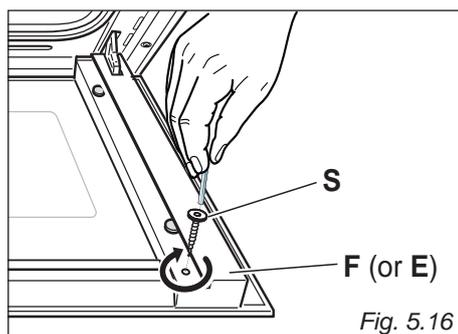

Fig. 5.16
- Refit the hex screw "S" on left "E" or right "F" slide guide, above the top edge of the inner glass (fig. 5.16). **IMPORTANT:** Do not catch the glass edge by the head of the screw "S", this could cause glass breakage. The screw "S" is a safety measure only to ensure the inner glass is correctly fitted, with the lower edge up to the retainers "H".